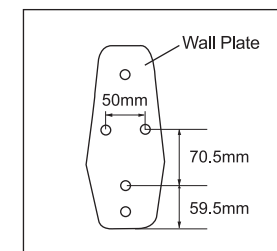

Fig. 3
2. Use the wall plate as a template to drill three holes on the wall (See Fig.3). The hole should fit the bolts we supplied.